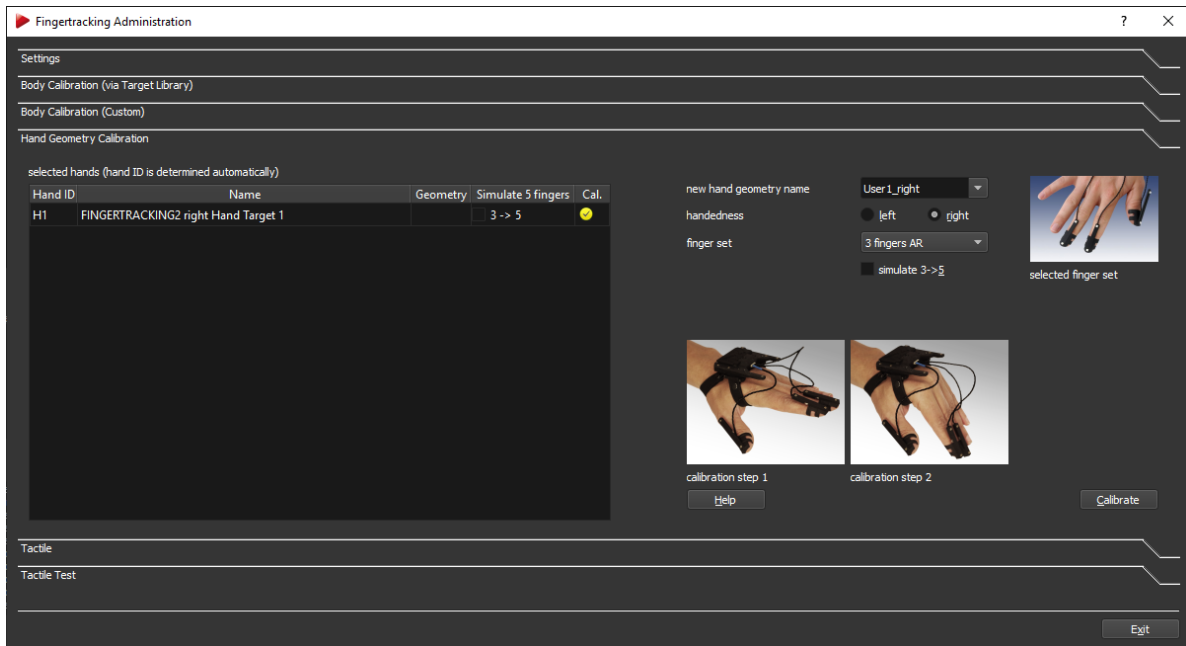

Figure 9.38: Fingertracking Administration - Hand Geometry Calibration
- all fingers have to be stretched out (see left picture in dialog, refer to figure 9.38 on page 127)
- keep the fingers stretched out (see right picture in dialog, refer to figure 9.38 on page 127)